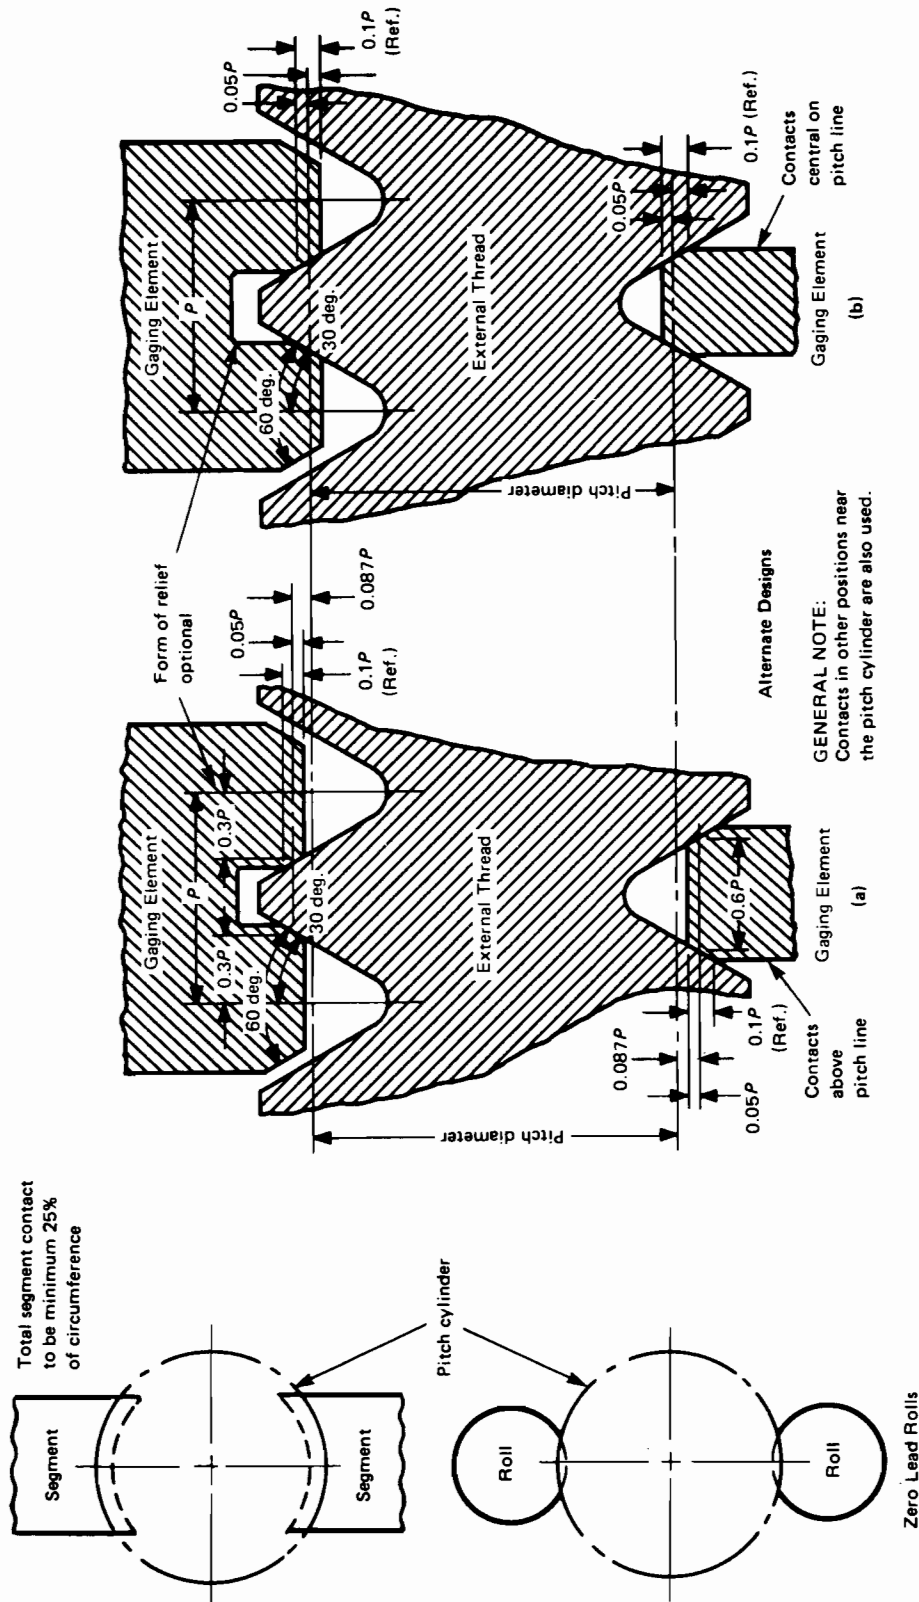

FIG. 22 THREAD SNAP GAGES — MINIMUM-MATERIAL PITCH DIAMETER LIMIT — CONE AND VEE
5.5.2 Basic Design. The segments are usually made having a surface contact at or slightly above the pitch line near the center of the flank. The rolls make point or line contacts approximately at the pitch line, depending upon the angle variations of the thread flanks. See Fig. 22 for details.
5.5.3 Thread Form. The specifications for thread form, thread crests, and thread roots are shown in Fig. 22.